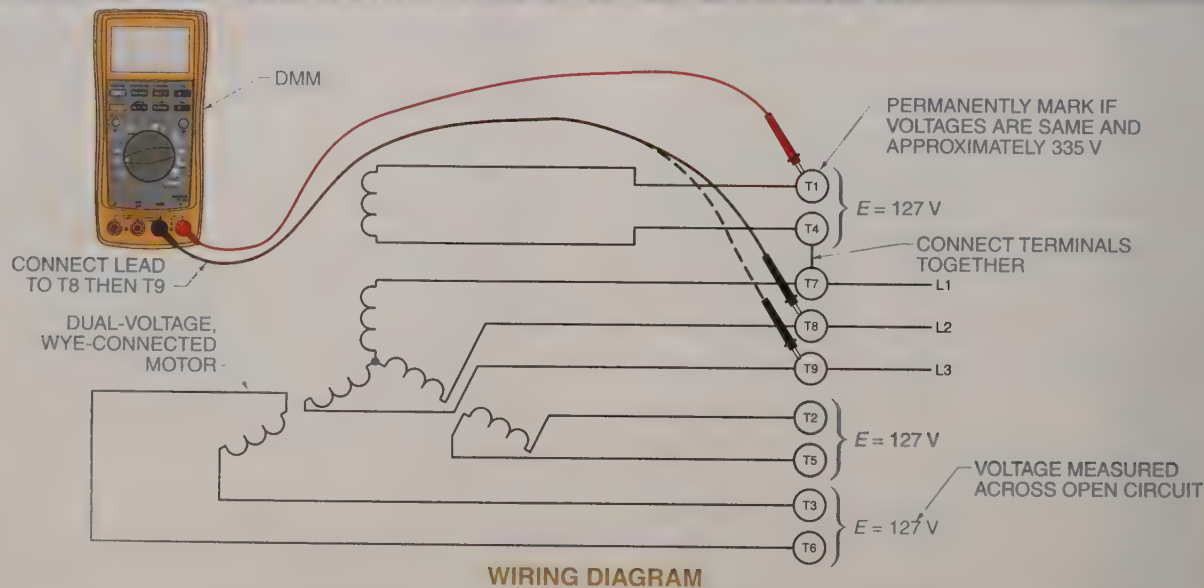

Figure 14-30. A wiring diagram is drawn when re-marking a dual-voltage, wye-connected motor to clarify the internal winding circuits.
1. While wearing proper PPE, connect one lead of any two-wire circuit to T7 and connect the other lead of the circuit to one side of a DMM. Temporarily mark the lead connected to T7 as T4 and the lead connected to the DMM as T1. **See Figure 14-30.**